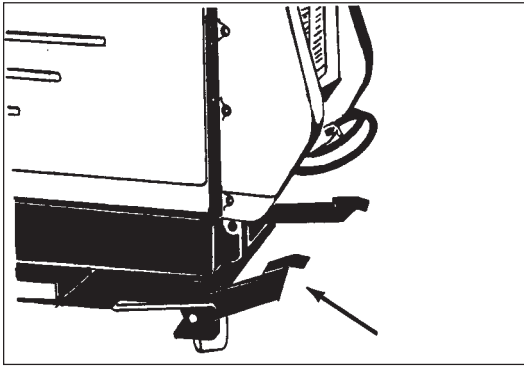

Figure 22
1. Release the parking brake. See figure 22.
1. Desserrez le frein de stationnement. Voir figure 22.
1. Release the parking brake. See figure 22, page 26.
1. Desserez le frein de stationnement. Voir figure 22.